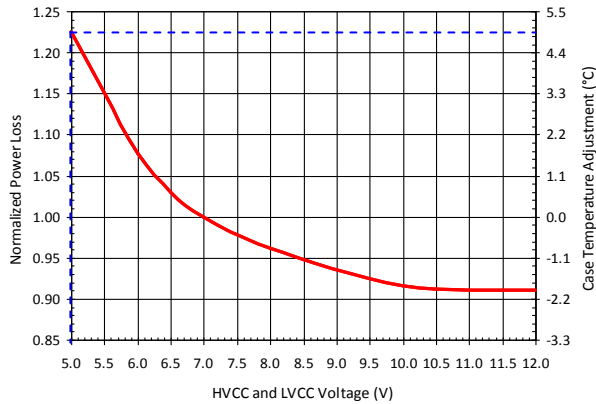

Figure 14: Normalized Power Loss vs. HVCC & LVCC Voltage
- 5) Determine the MOSFET drive voltage normalizing factor with PVCC (HVCC/LVCC) = 5V, which is 1.22 based on the dashed lines in Figure 14.
- 12) Determine the case temperature with PVCC (HVCC/LVCC) = 5V, which is  $+4.9^{\circ}$  based on the dashed lines in Figure 14.